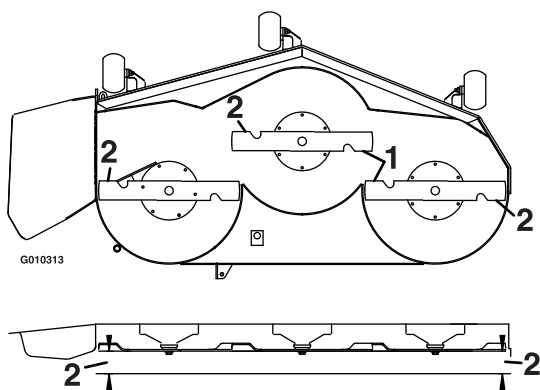
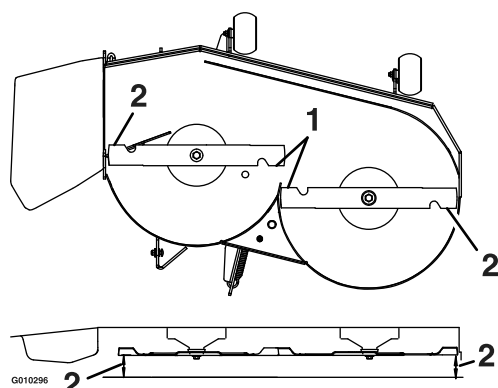

Figure 23
Figure 24
6. Measure between the outside cutting edges and the flat surface (Figure 23 and Figure 24). If both measurements are not within 3/16 inch (5 mm), an adjustment is required; continue with this procedure.
9. Carefully rotate the blades side to side (Figure 23 and Figure 24).